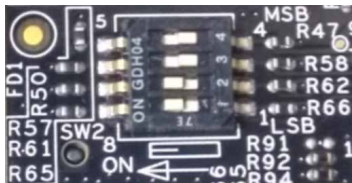

Figure 4: BOOT MODE switch
- Switch SW2 to ON, ON, OFF, OFF (from 1-4 bit) to boot from the SD card, as shown in Figure 4.